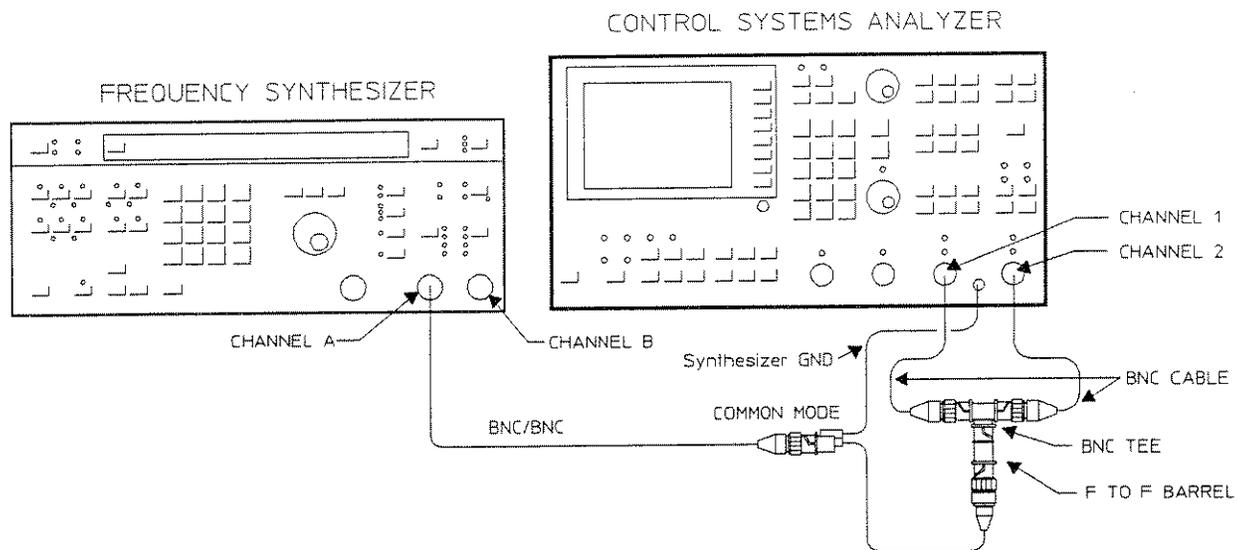
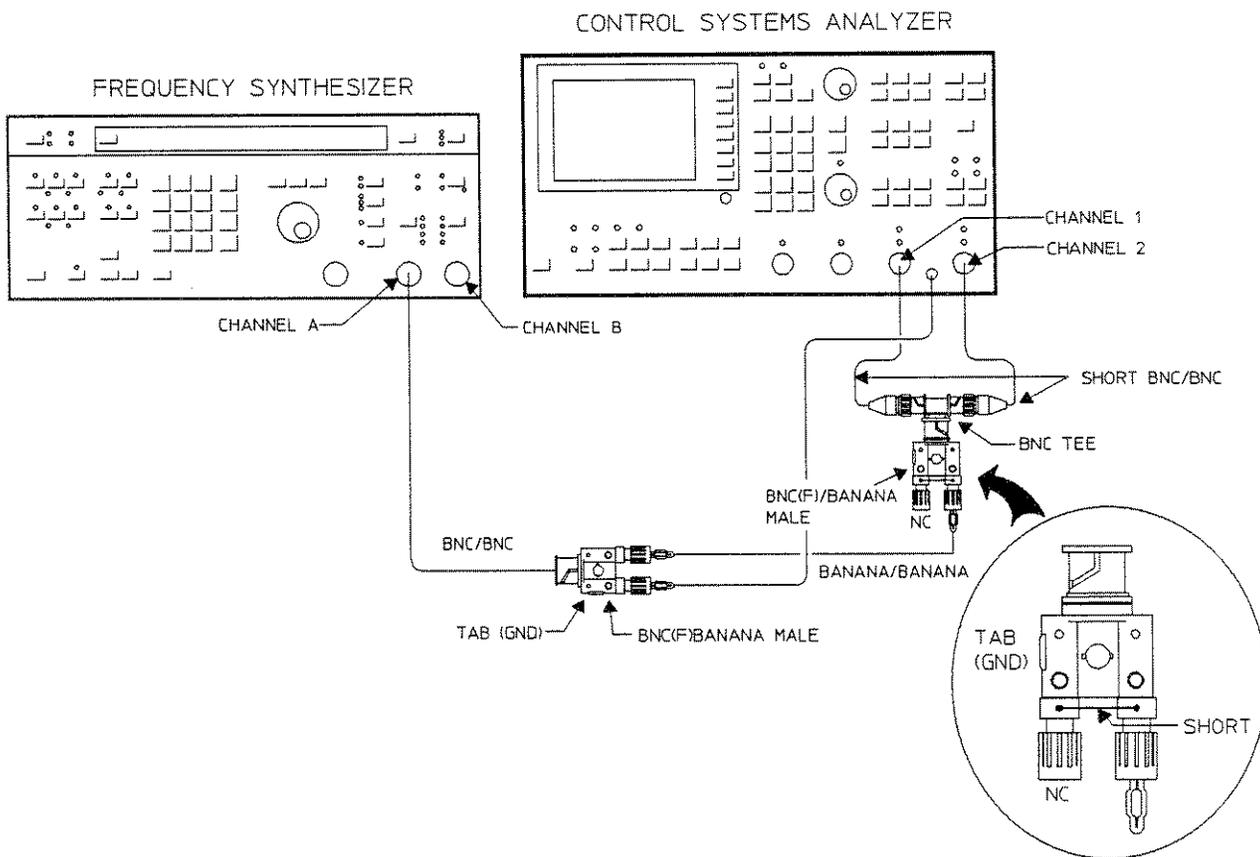

Figure 3-8. Common Mode Rejection Setup #2
Figure 3-9. Alternate Common Mode Rejection Setup #2
If Common Mode Cable is not available for Setup # 2, use the alternate setup, Figure 3-9.
- e. Connect the test instruments as shown in Figure 3-8. If you do not have a common mode cable, use the alternate setup, Figure 3-9.